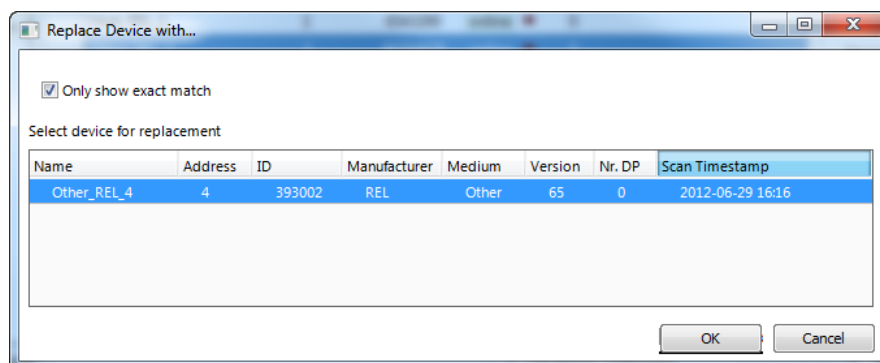

Figure 127: M-Bus Device Replacement Dialog.
5. Select the device which has to be replaced and press the **Replace Device** button. This opens the dialog displayed in Figure 127.